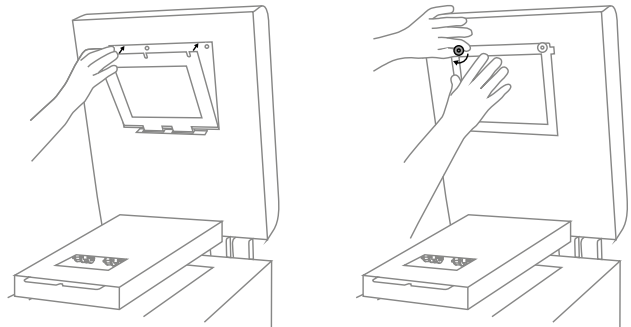

Fig. 12.45 Reinstall the laser protective glass and quick release nuts.
13. Insert the laser protective glass into mounting brackets and tighten the two quick release nuts (fig 12.45).